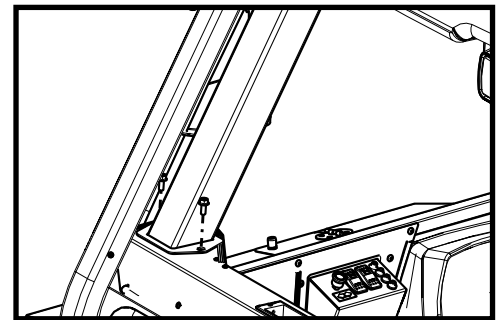

Figure 9.2: Heater Duct
9.2 Fasten the front of the heater duct to the cowl (see Figure 9.2). Leave hardware loose.